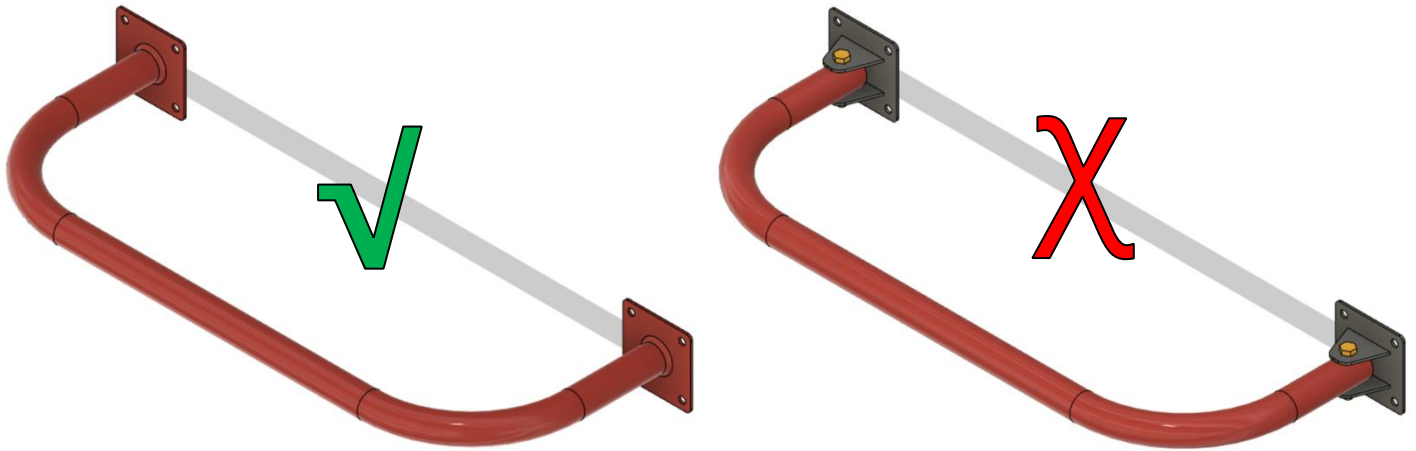

Figure 12
- E. Bumpers must be fastened to the vehicle with a minimum of (4) 3/8 inch fasteners per side (minimum Grade 5) or welded to prevent the bumper from being dislodged from the vehicle. Refer to Figure 12